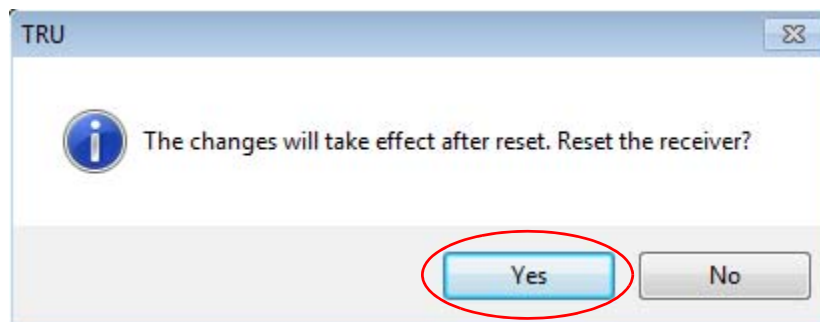

Figure 24: Reset Receiver
- Click **Yes** at the prompt to reset the receiver (Figure 24).